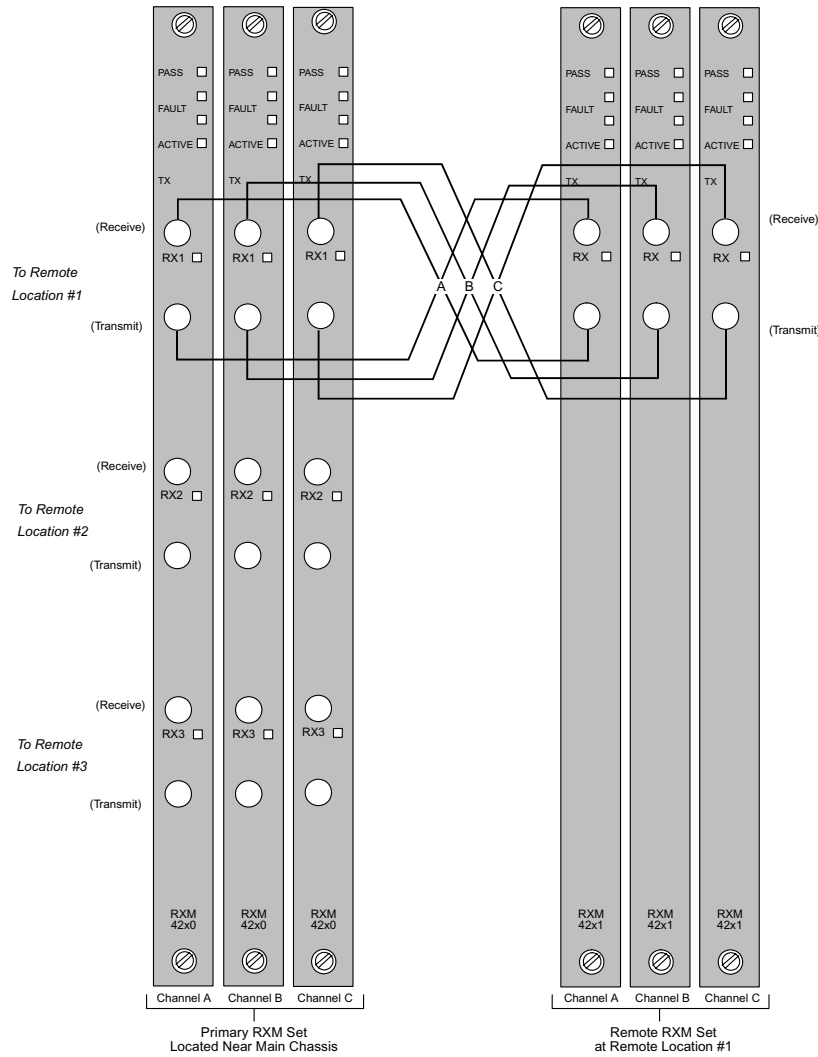

Figure 82 Simplified Fiber-Optic Wiring for One Remote Location
- 4 Connect each RXM Chassis at remote locations with the RXM Chassis located near the Main Chassis using fiber-optic cables to connect to the Transmit and Receive paths for each channel. This connection can be as far as 7.5 miles (12 kilometers) from the Main Chassis. See Figure 82 for a diagram of this wiring.